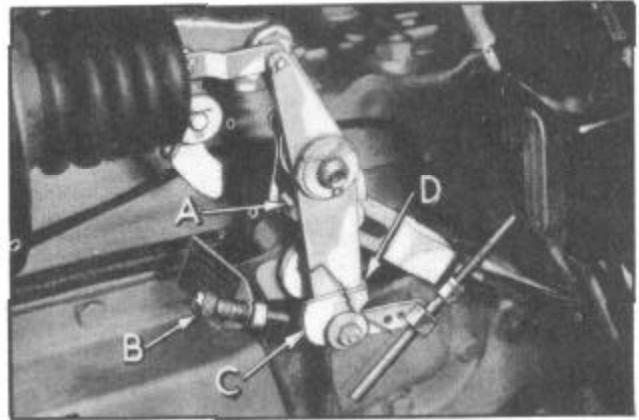

Figure 32--Finding Cushion Point
36. In determining the cushion point block the wheels securely and start the engine. Accelerate engine and engage and disengage the clutch several times. This action tends to dry the clutch disc. Swing the compensator pin (A), Figure 32, rearward and turn cushion point stop screw (B) clockwise (in) until it meets the cam (C). Then with transmission in low gear, hold the cam (C) against stop screw (B) by pressing forward at point (D) and at the same time slowly turn stop screw (B) counter clockwise (out) until the car shows distinct tendency to move forward.
Hold accelerator down until cam (C), Figure 32, just touches the stop screw (B). Do this by wedging the accelerator bell crank away from the toe board. Do not attempt to open the throttle at any other point because